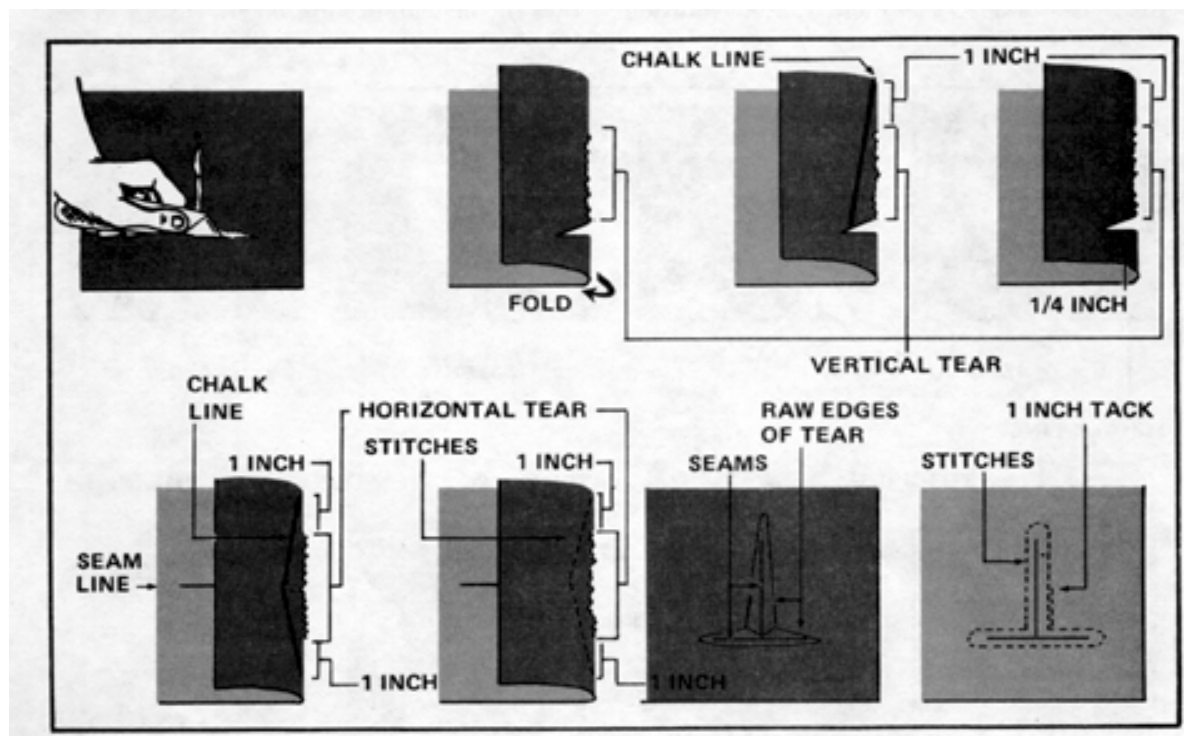

Figure 4-7. T-patch
c. T-Patch. The T-patch (Figure 4-7) is used to repair L-shaped tears. Unlike the other patches, the T-patch does not require an additional piece of cloth. To make a T-patch--
- (1) Enlarge by cutting the L-shaped tear so that it forms an inverted T.
- (2) Place the item on the table, faceup, so that the T is inverted. Fold the right edge of the material to the left along the vertical tear.
- (3) Sew a row of stitches, beginning 1 inch above the end of the vertical tear at the edge of the fold, and continue to the horizontal tear ending stitches 1/4 inch from the edge of the vertical tear. Tack seam at the beginning and the end.
- (4) Rotate the item to the left 1/4-turn so that the horizontal tear is now vertical. Fold the right edge of material to the left along the horizontal tear.
- (5) Sew a row of stitches, beginning 1 inch above the end of the horizontal tear at the edge of the fold, and continue to the juncture of the vertical tear, so that the seam at this point is 1/4 inch from the edge of the horizontal tear. Continue sewing until the row of stitches ends 1 inch below the bottom end of tear at the edge of the fold. Tack the seam at beginning and end.
- (6) Turn the item over so that the face side is down. Spread the edges of the tears away from seams, and press flat using an iron.
- (7) Turn the item over so that the face side is up. Sew a row of stitches 1/16 inch from and around seams. Tack the row of stitches at the beginning and the end.